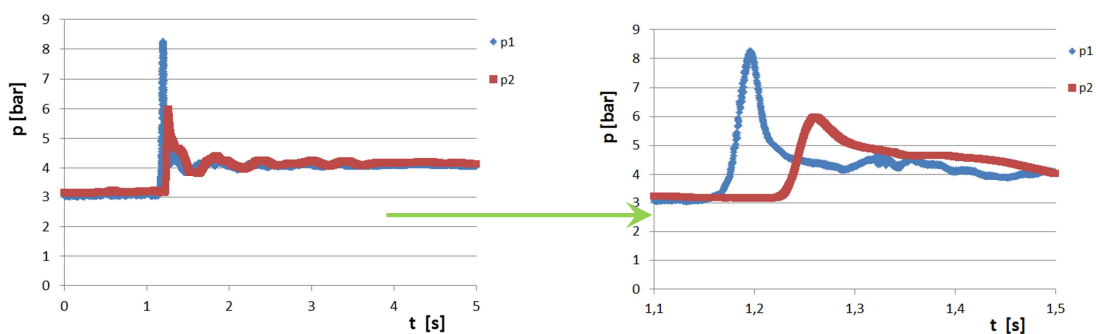

Figure 2: The choice of time interval for the cross-correlation.
1. step: The measured signals are 5 seconds length; the transient event has to be found in this signal and chosen from that, see Figure 2.